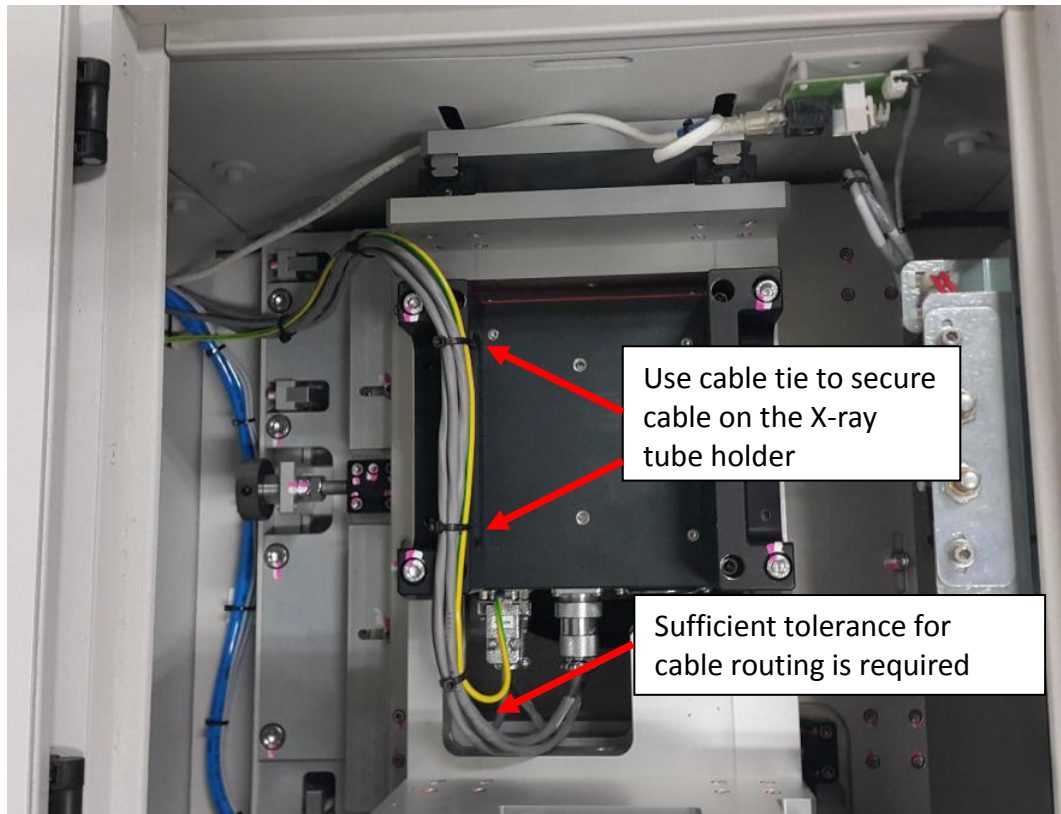

Figure 14 X-ray tube placement
15. Using cable tie to secure cables on the X-ray tube holder as shown in Figure 14.